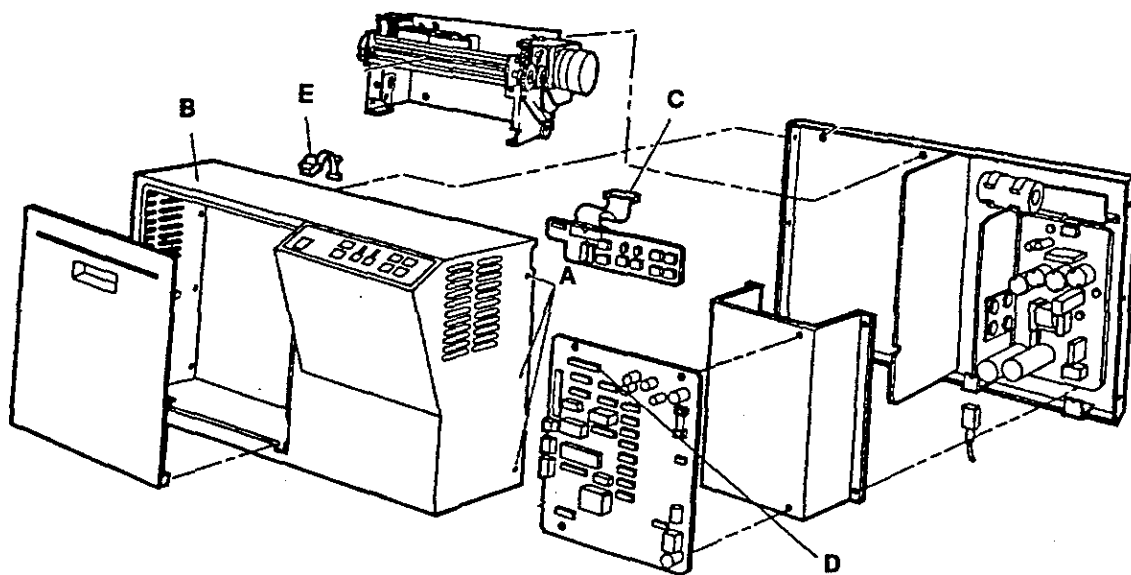

FIGURE 4
Remove the six (6) screws (Figure 4, Item A, three on each side) and gently lift the cover (Figure 4, Item B). Before the cover can be completely removed, the control panel ribbon connector (Figure 4, Item C) must be disconnected from the controller board (Figure 4, Item D) and the leads to the power switch (Figure 4, Item E) must be pulled off.
Remove 4 screws holding printer mechanism in place. Remove cables, printer head, optical switch, stepper motor and cutter switch. (See Figure 4)